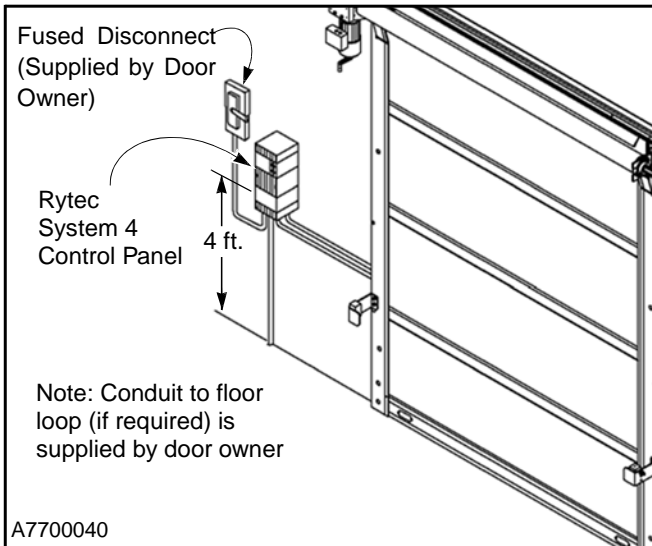

Figure 35
1. Locate the Rytec control box and fused disconnect as shown in Figure 35.